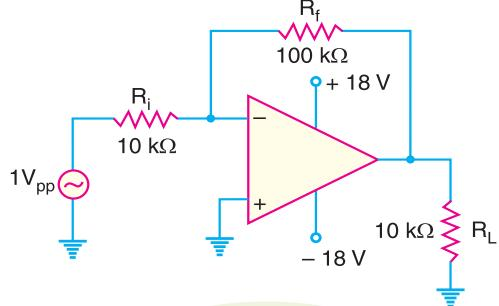

Fig. 25.53
**Example 25.29.** For the circuit shown in Fig. 25.53, find (i) closed-loop voltage gain (ii) input impedance of the circuit (iii) the maximum operating frequency. The slew rate is  $0.5\text{V}/\mu\text{s}$ .